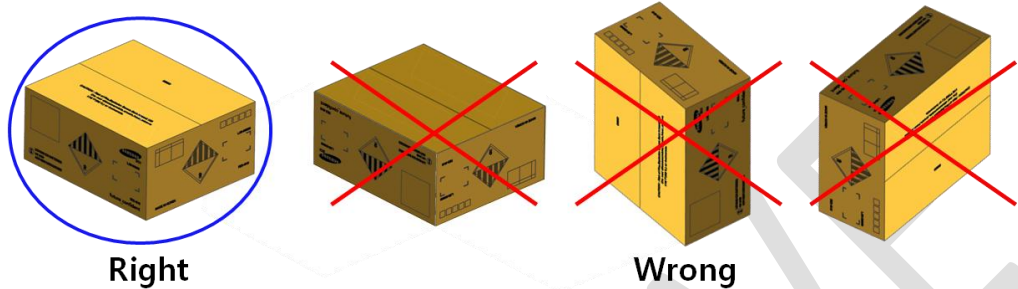

Figure 2: Storage Guide
- The battery module box should be upright as in Figure 2 below. Do not stack or place upside down when storing the battery module box.